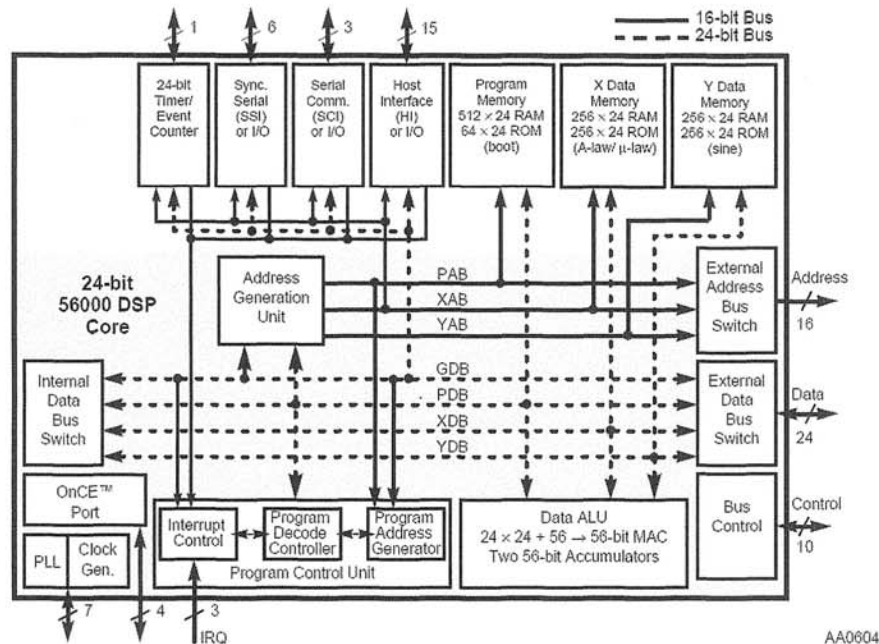

Figure 1 DSP56002 Block Diagram
The DSP56002 is a MPU-style general purpose Digital Signal Processor (DSP) composed of an efficient 24-bit DSP core, program and data memories, various peripherals, and support circuitry. The DSP56000 core is fed by on-chip Program RAM, and two independent data RAMs. The DSP56002 contains a Serial Communication Interface (SCI), Synchronous Serial Interface (SSI), parallel Host Interface (HI), Timer/Event Counter, Phase Lock Loop (PLL), and an On-Chip Emulation (OnCE™) port. This combination of features, illustrated in Figure 1, makes the DSP56002 a cost-effective, high-performance solution for high-precision general purpose digital signal processing.